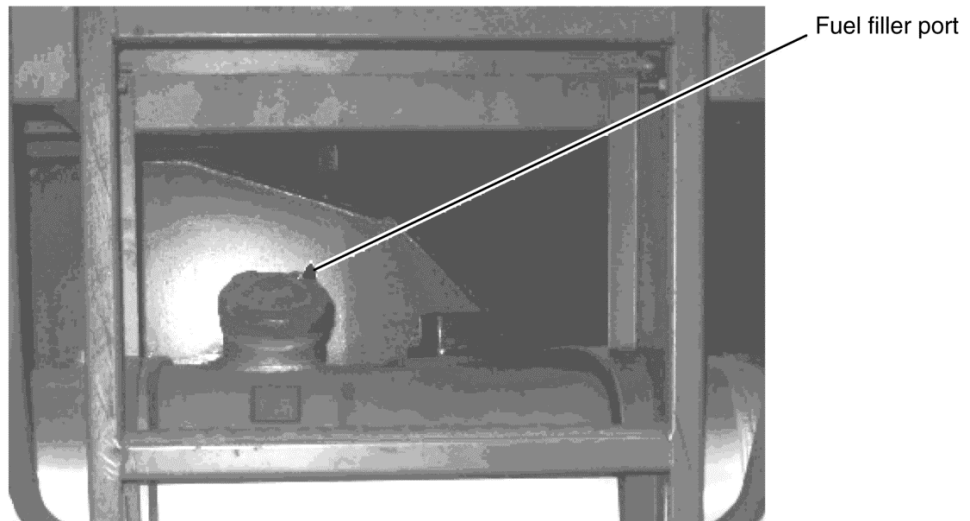

Figure 1-1 Fuel Tank Cap
(1) Fuel Level
- (a) You can find the fuel tank on the left side of the crane (Figure 1-1). If you keep the tank full of fuel, in cold weather, you can decrease the quantity of condensation.